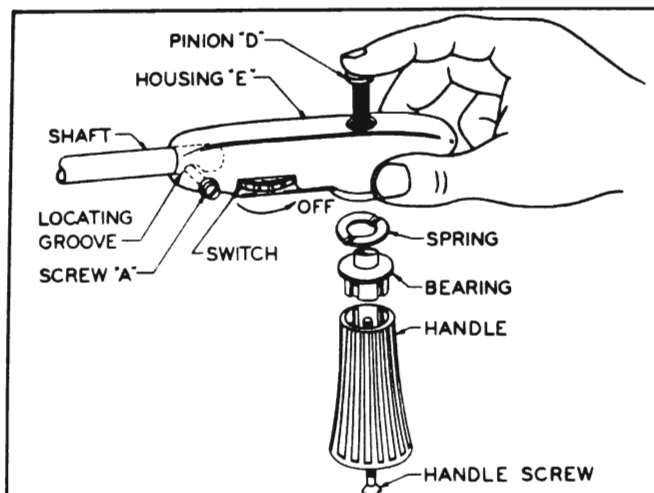

Figure 11-7—Assembly of Safety Light Pinion and Handle
3. Loosen screw "A." Remove handle screw, handle, bearing, and spring then push pinion up and remove it. Remove screw "A" and pull housing from shaft. See figure 11-7.
7. Install spring, bearing, handle, and handle screw. Tighten screw securely then rotate handle to see that pinion and racks move freely. Finally, tighten screw "A" securely. See figure 11-7.